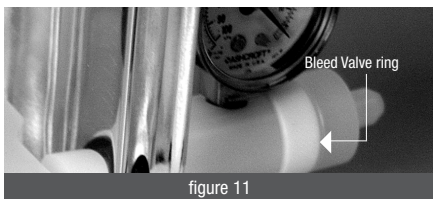

figure 11
- A. Turn on vacuum to the system and using the knurled bleed valve ring located adjacent to the manifold vacuum gauge (*figure 11*) adjust the maximum vacuum level. The bleed valve ring also permits rapid vacuum release of the entire system. Most analysts find that 3 to 5 inches of vacuum is satisfactory for proper flow through the SPE columns.
- D. Prior to removing the lid, it is important to completely bleed the vacuum from the manifold by opening the bleed valve ring (*figure 11*) or fully opening any unused stopcocks on the lid. Failure to do so may result in eluent splashing and sample cross contamination.